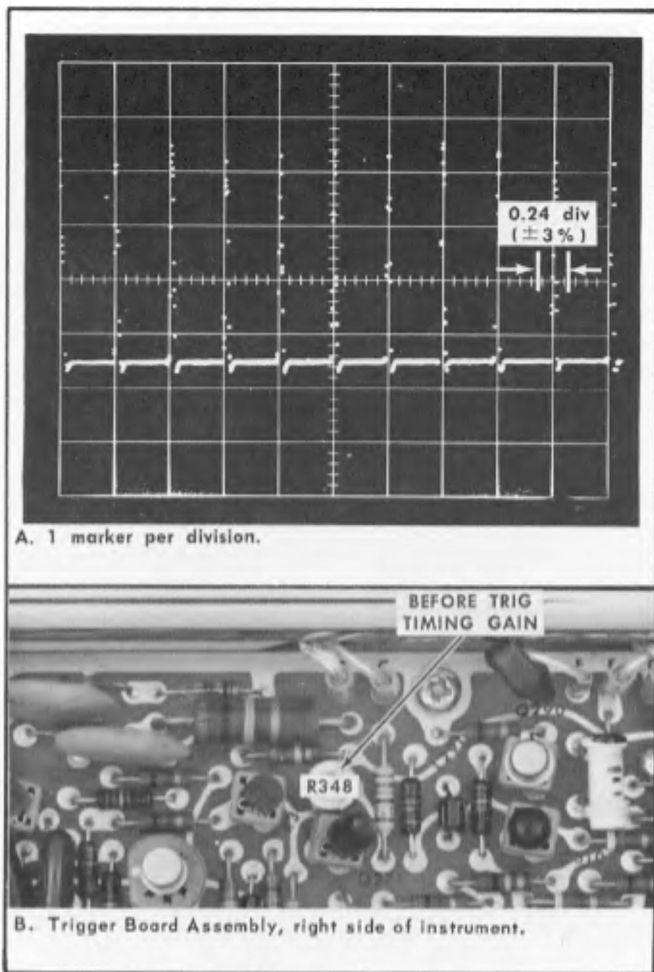

Fig. 7-23. BEFORE TRIGGER Timing display and location of adjustment.
d. Adjust R348, BEFORE TRIG TIMING GAIN, for exactly 1 marker per division; see Fig. 7-23.